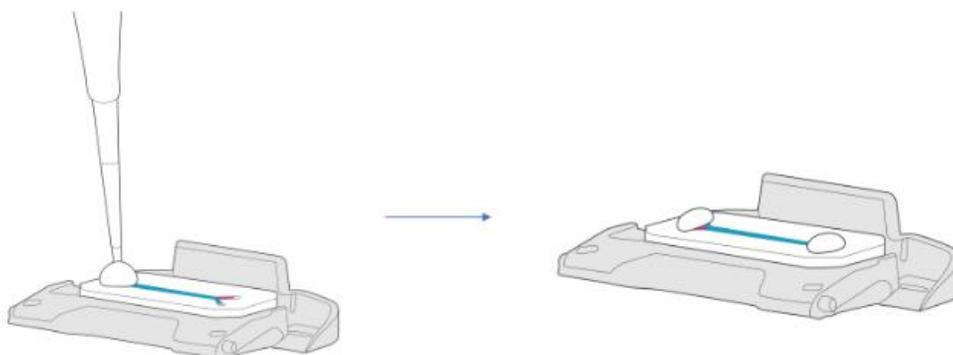

Figure 7. Chip with medium drops covering the inlet and outlet ports
4. Place additional droplets of media to fully cover all inlet and outlet ports. (See Figure 7.)